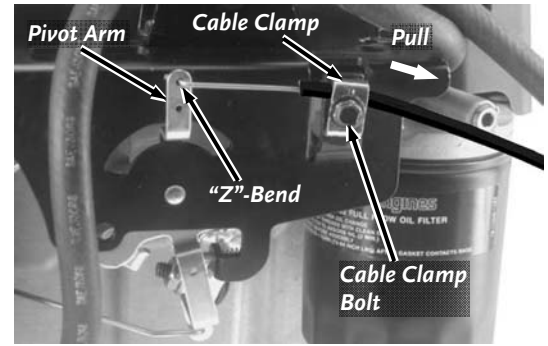

Figure 13
3. Insert the "Z"-Bend of the Cable end into the top hole in the Throttle Pivot Arm on the side of the Engine (**Figure 13**).